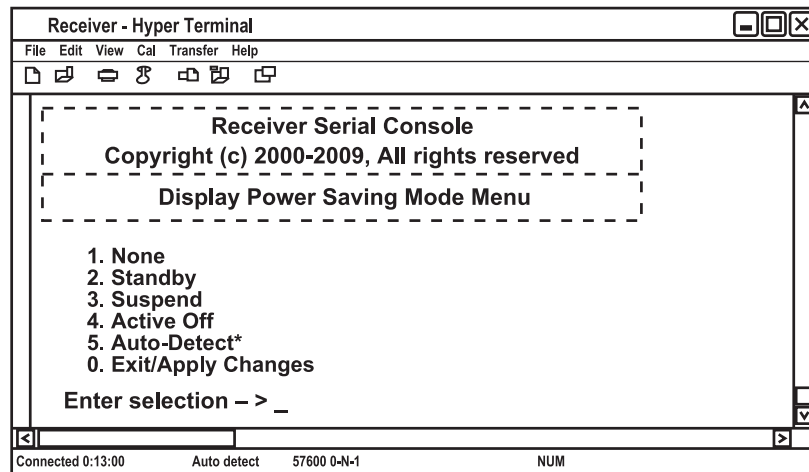

Figure 4-40. Display Power-Saving Mode Menu.
2. Press "8" to choose Display Power-Saving Mode, then press "Enter." The Display Power-Saving Mode Menu will appear (see Figure 4-40).